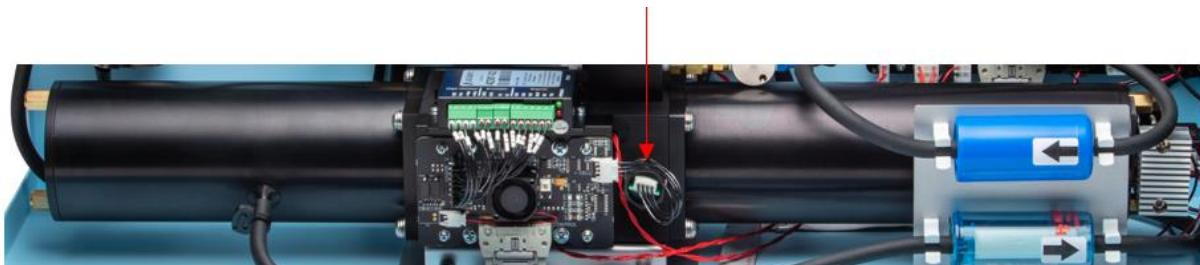

Figure 147 – Location of Temperature Pressure RH Sensor
4. Locate the Pressure, Temperature and Relative Humidity sensor on the front side of the cell, refer to Figure 147